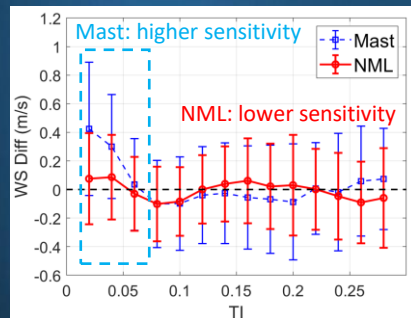

Fig.4 The comparison between Mast and NML of sensitivity on TI
- WTPC by Met Mast shows sensitivity, particularly when shear>0.7 and TI<0.08 (Fig.4), but NML shows no significant sensitivity.